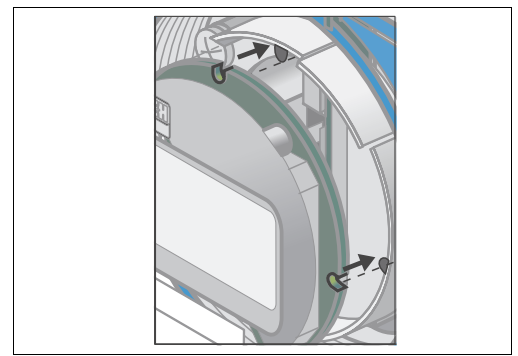

Fig. 9: Reinstalling display
3. Turn the removed display in 90 ° steps. Reinstall the desired orientation (Fig. 9). Ensure the display latches back into the guide.